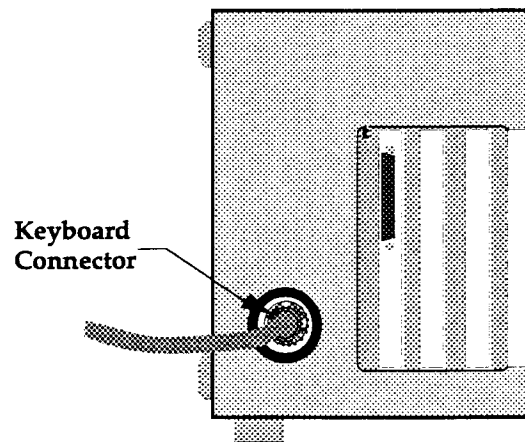

Figure 3-2. Keyboard Connection
3. Plug the keyboard cable's connector into the recessed receptacle on the rear of the generator (Figure 3-2). Make sure the plug is in fully.